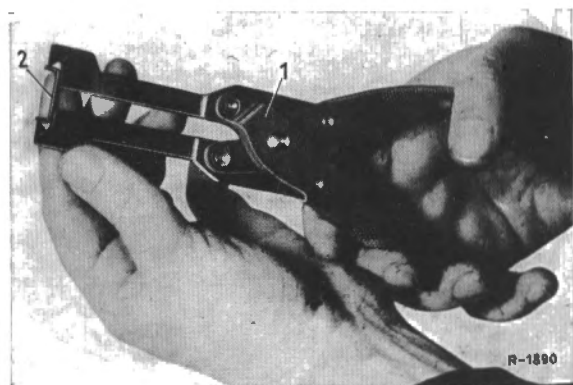

Fig. 35-9/1
7. Use Special Pliers 111 589 06 37 00 to compress two clips (auxiliary clips) in such a way that the clip ends are bent to an angle of approx. 45° (Fig. 35-9/1).